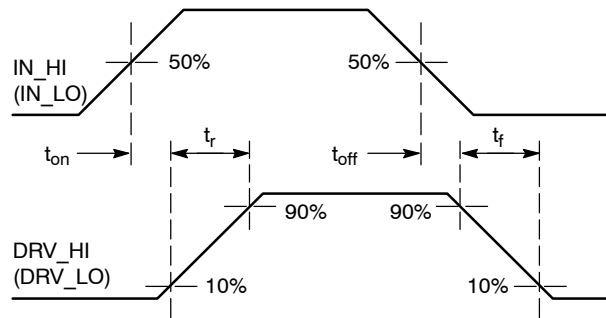
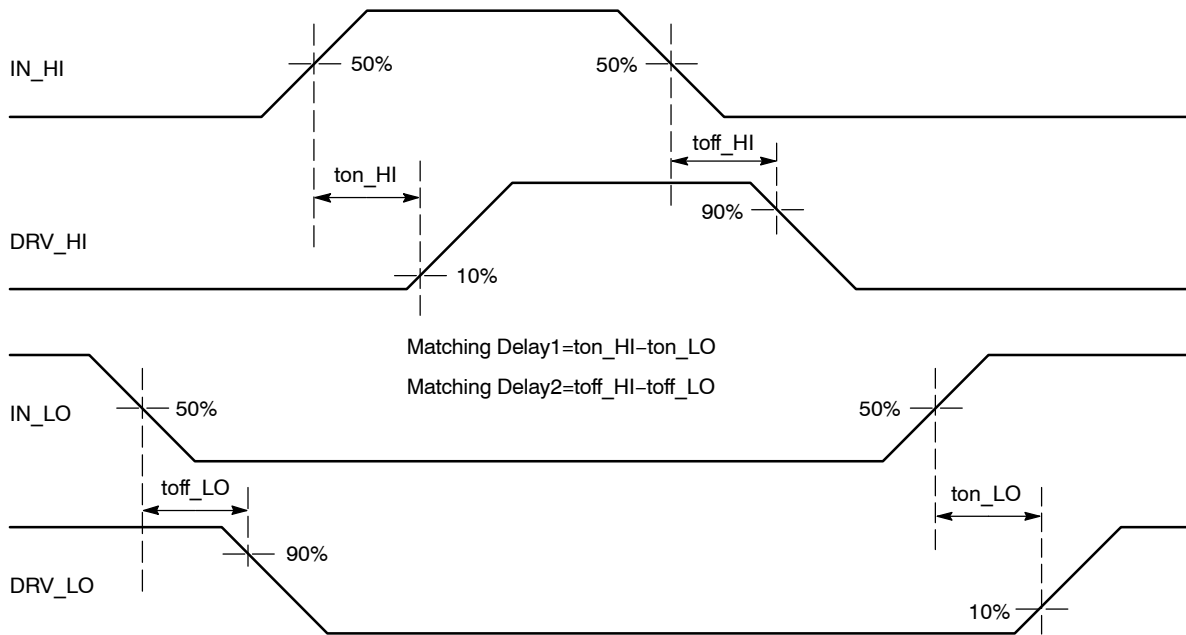

Figure 5. Propagation Delay and Rise / Fall Time Definition
Figure 6. Matching Propagation Delay
- Timing diagram definition see Figure 5 and Figure 6.